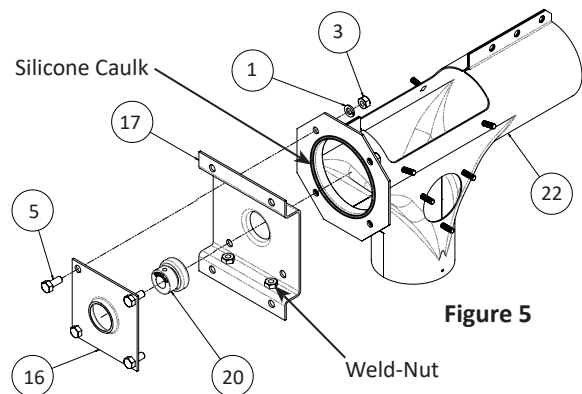

Figure 5
- Note the orientation of the drive base plate (Figure 5). The weld-nuts should be on the bottom side in relation to the bearing. Also note the direction the bearing is installed. Place caulking on the connecting face, around the ID of the discharge head. Do not tighten bolts completely - the bearing must be loose enough to allow alignment with the auger drive shaft in step 2.